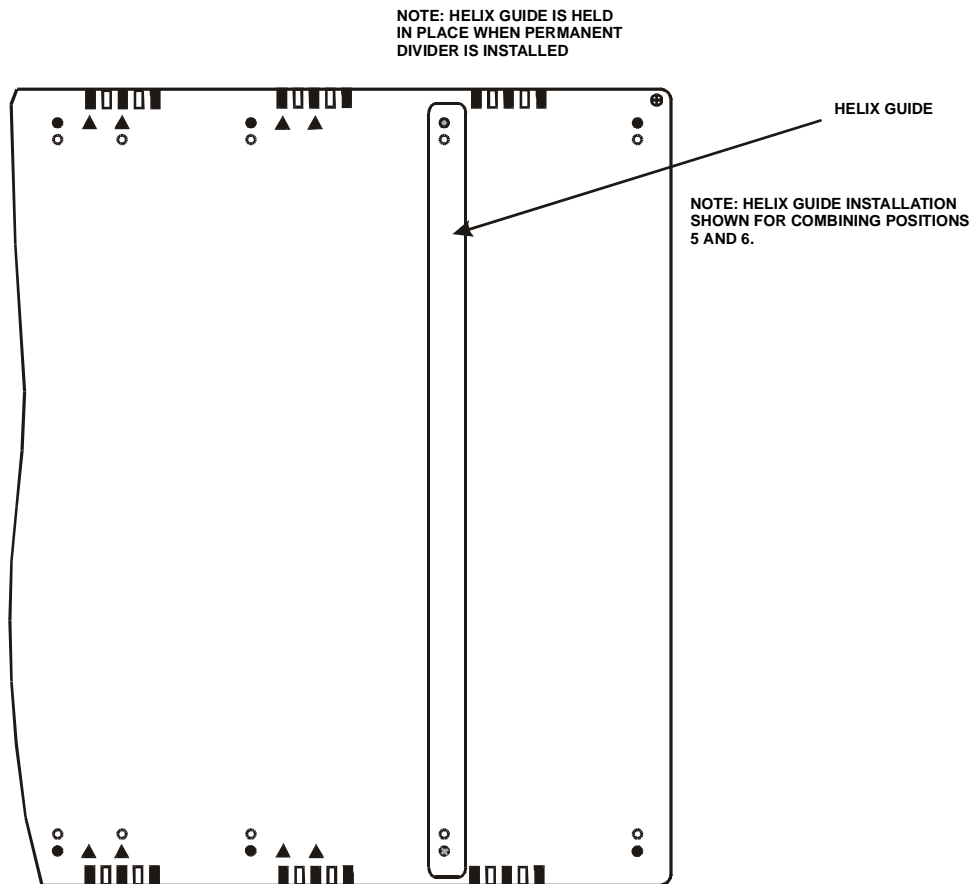

Figure 5 Positioning the Helix Guide
2. Position the Helix Guide as shown in Figure 5. Loosen the Permanent Divider on the right and slip the Helix Guide under it. The Helix Guide aligns with a slot in the divider.